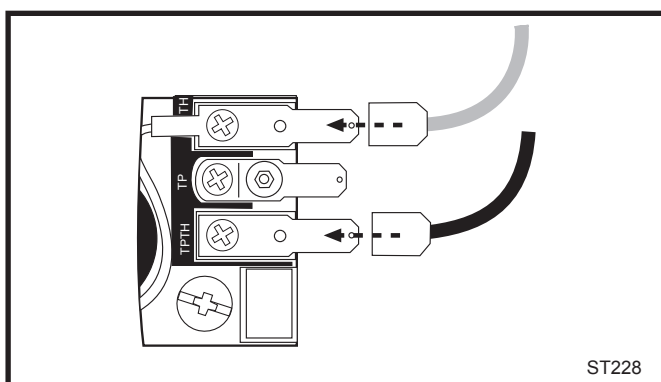

Fig. 10 Attach switch wires to valve.
3. Attach wires to valve terminals. (Fig. 10)